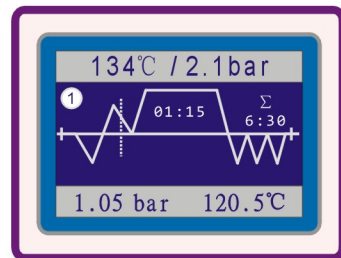

Fig.6.4-18
(4)**First times Exhaust stage:**when the pressure up to about 1.1bar(134℃ sterilization program) or about 0.9bar(121℃ sterilization program),the control system will open the exhaust-solenoid valve (Ev1) and drain water-solenoid valve(Ev5)for exhausting till pressure down to P=0.0bar.LCD show “01:15” ,it is exhaust time countdown. If within 01:30,the pressure in chamber reaches in advance, sterilization program into the second pre-vacuum times stage in advance. (Fig.6.4-18)